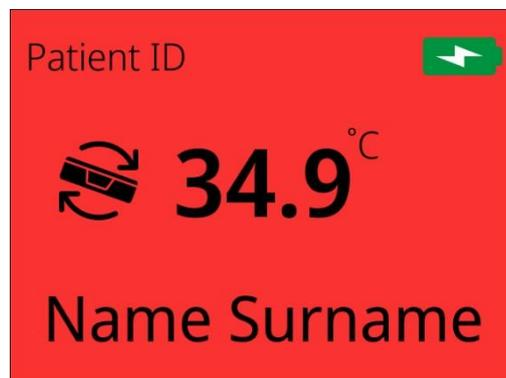

Figure 15.39 Multiple alarm indication on the undocked chamber’s display (tilt/temperature alarms active)
2. **Docked** – the entire display background is coloured in red (the docking station’s display panel serves as the primary communicator in this scenario) (Figure 15.39).